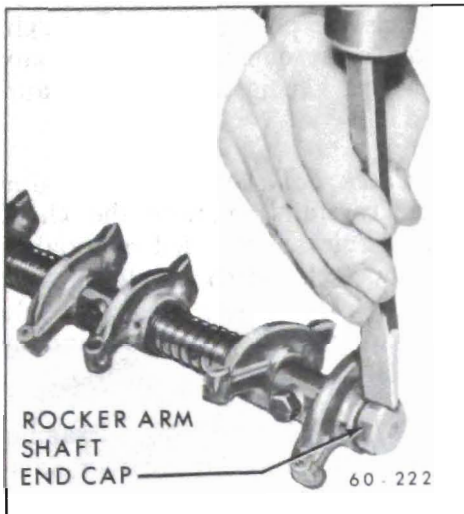

Figure 60-219 Removing Rocker Arm Shaft End Cap
3. Remove shaft end cap by splitting side of cap with chisel. See Figure 60-219.